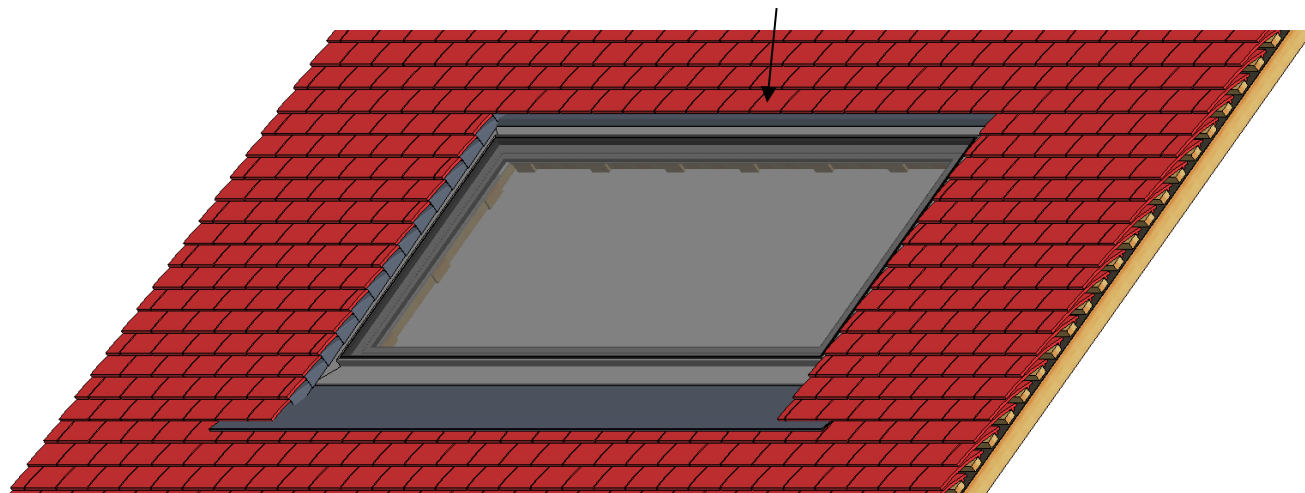

Fig. 13c – Roof tiled above the head
- Tile above the product (fig. 13c) - Glazing Vision recommends that eaves tiles are used immediately above – see sales drawing